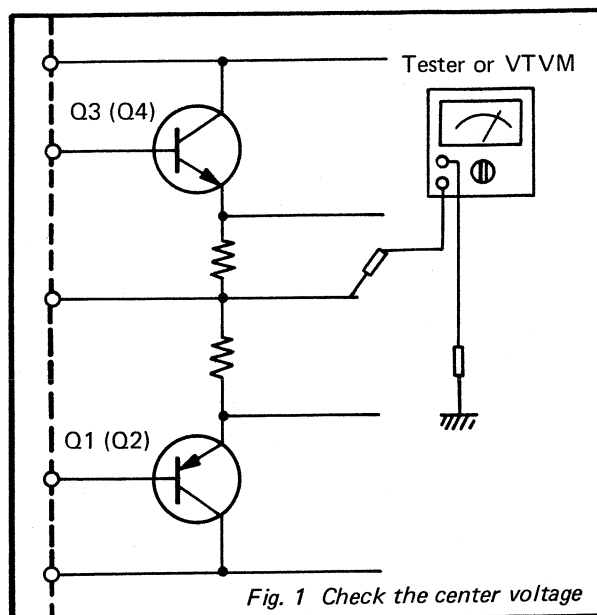

Fig. 1 Check the center voltage
3. Adjust the * variable resistor (VRq 1,2) so that the meter indicates within 0 ± 100 mV. (Fig. 1)